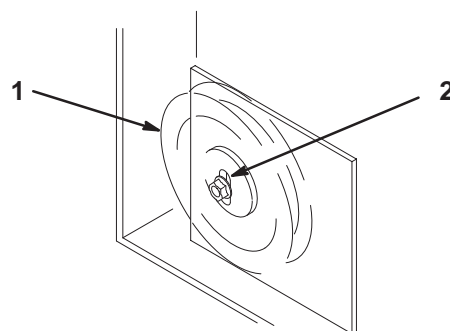

Figure 74
11. If the mower idler plate contacts the end of the adjustment slot and more belt tension is required, a small change to the right side fixed idler can create more belt tension adjustment (Fig. 74).